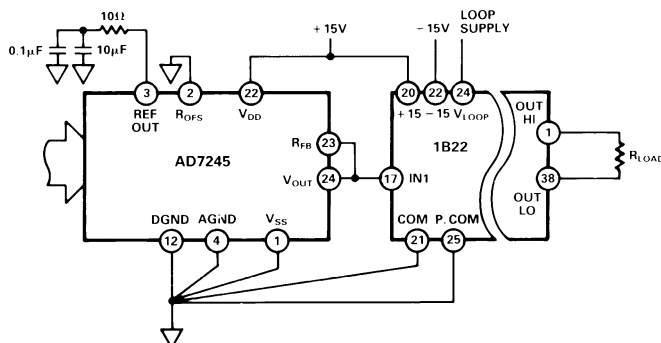

Figure 7. D/A Converter-Isolated 4-20 mA Interface
**Isolated D/A Converter:** The 1B22 offers total ground isolation and protection from high voltage transients in interfacing D/A converters to standard 4 to 20 mA current loops. The D/A converter, such as the Analog Devices' 12-bit AD7245 DACPORT®, should be connected for operation on the unipolar 0 V to +10 V output range. This is shown in Figure 7.